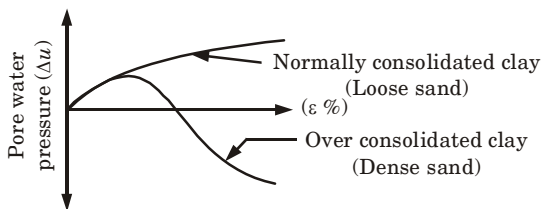

Fig. 4.21.2. Pore pressure vs. axial strain ($\epsilon \%$).
- i. In a consolidated undrained test, there is an increase in the pore water pressure throughout for loose sand (and normally consolidated clay), as shown in Fig. 4.21.2.